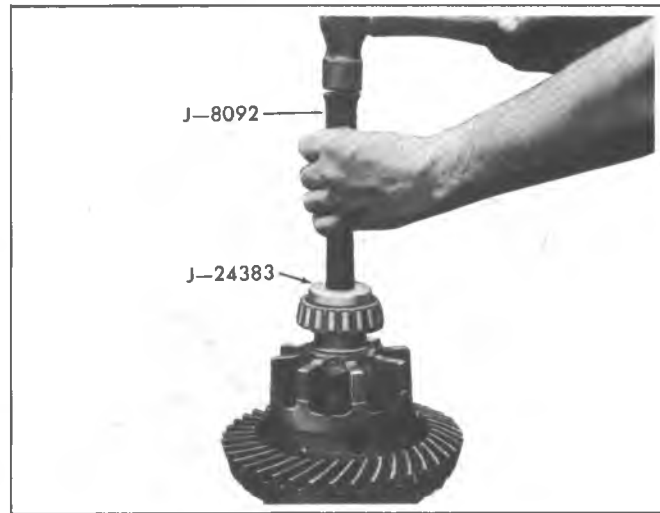

Fig. 7F—Installing Side Bearing
8. Place side bearing into position and install, using tools J-8092 and bearing installer J-24383 as shown in figure 7F.